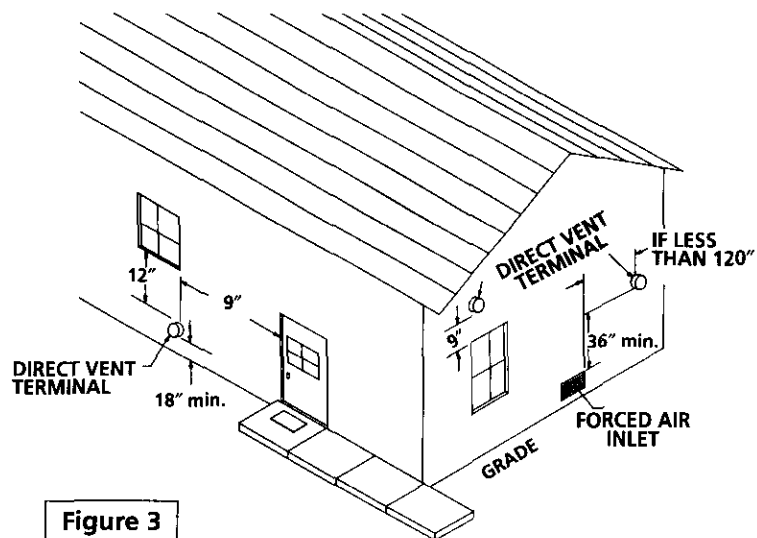

Figure 3
- The direct vent terminal shall terminate at least 3 feet above any forced air inlet located within 10 feet. Figure 3.